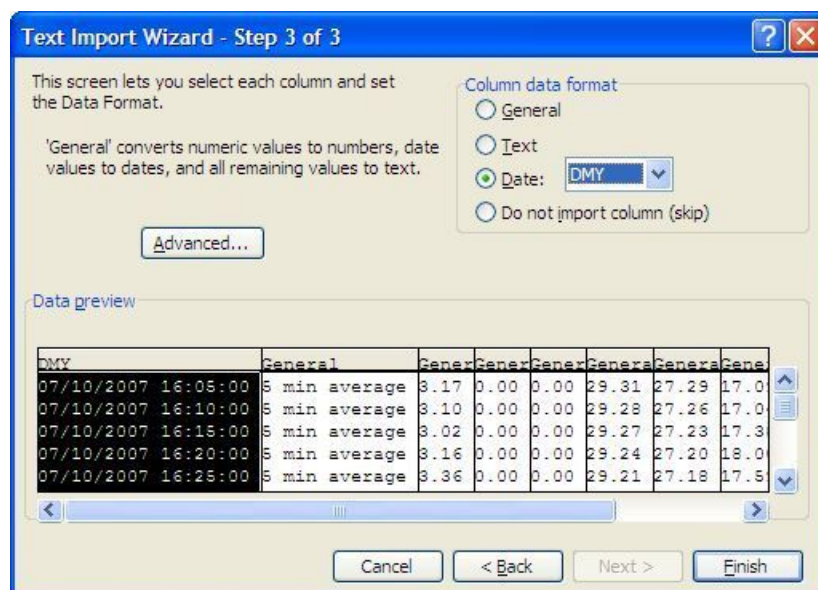

Figure 35 Step 3.
3. Select 'Serial Port' and the COM Port on the computer from those listed on the Firmware Update screen as shown in Figure 35.